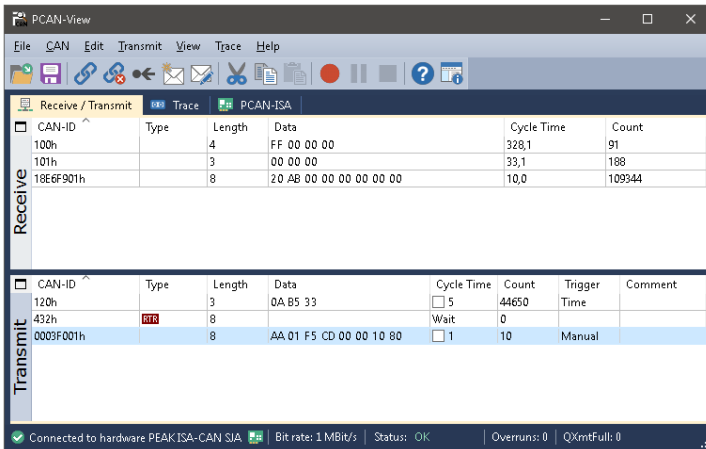

Figure 12: Receive/Transmit Tab
10. Confirm the settings in the dialog box with **OK**. The main window of PCAN-View appears (see Figure 12).